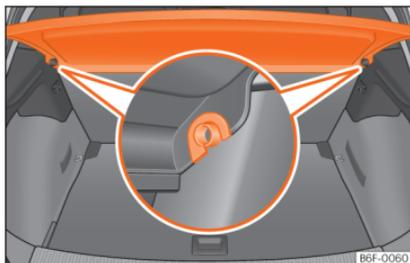

Fig. 109 In the luggage compartment: removing and fitting the shelf.
- Remove the rear shelf from the side supports »»» Fig. 109 by pulling it upwards and then take it out.
- Insert the cover horizontally so that the "recess" fits onto the axis of the supports »»» Fig. 109 and press down until it engages.